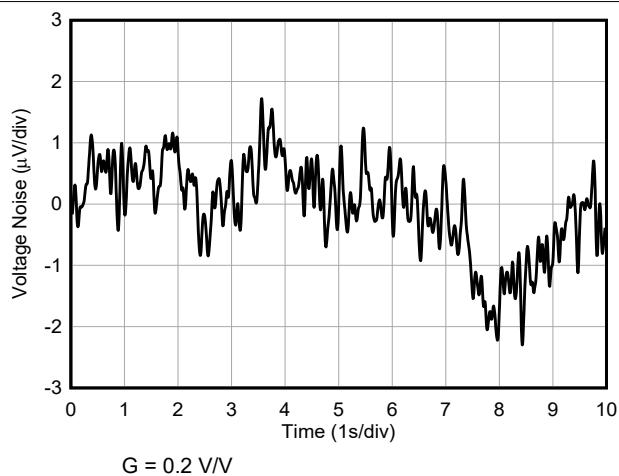

Figure 7-27. 0.1-Hz to 10-Hz RTI Voltage Noise
0.1-Hz to 10-Hz RTI Voltage Noise, $G = 0.2$	Figure 7-27